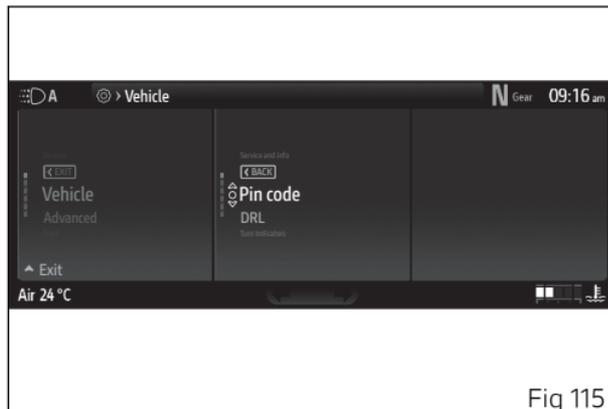

Fig 115
- Select the "PIN code" item (Fig 115) and press .